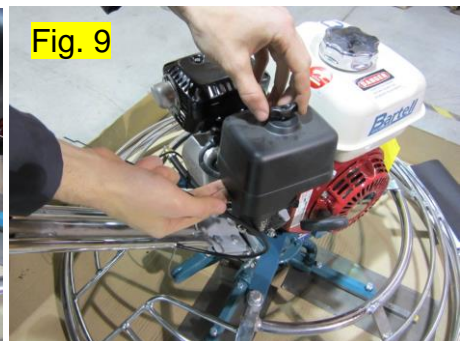

Fig. 9
**Step 6:** Remove air filter cover and air filter. (Fig. 9)